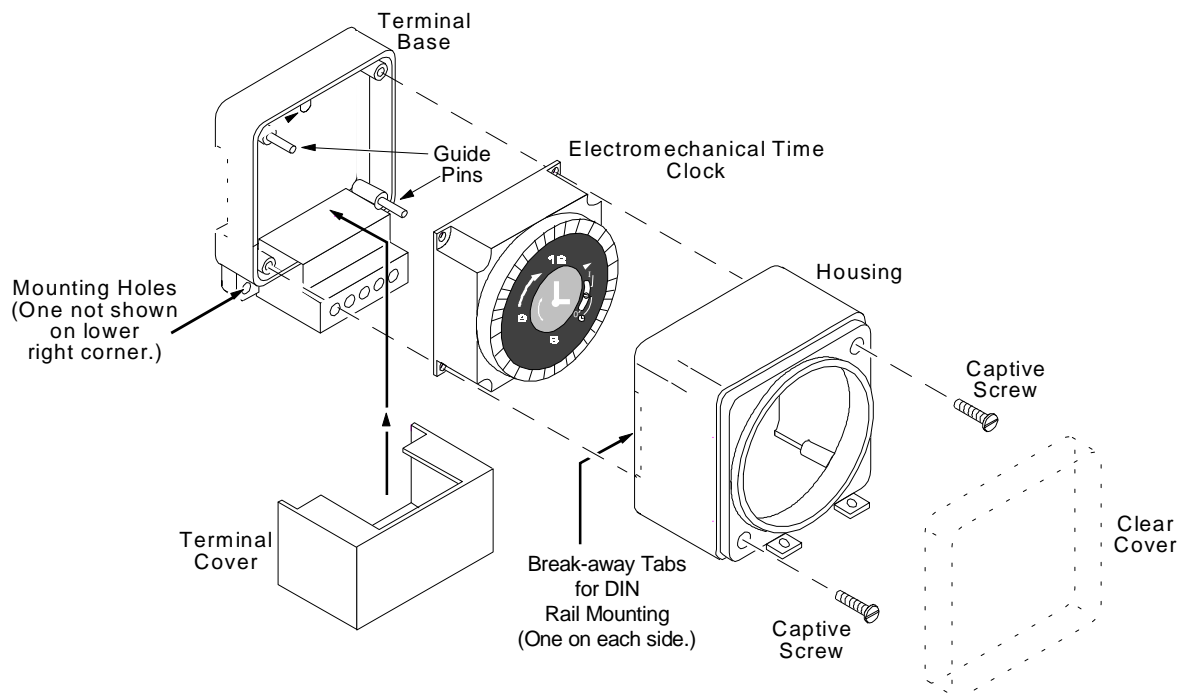
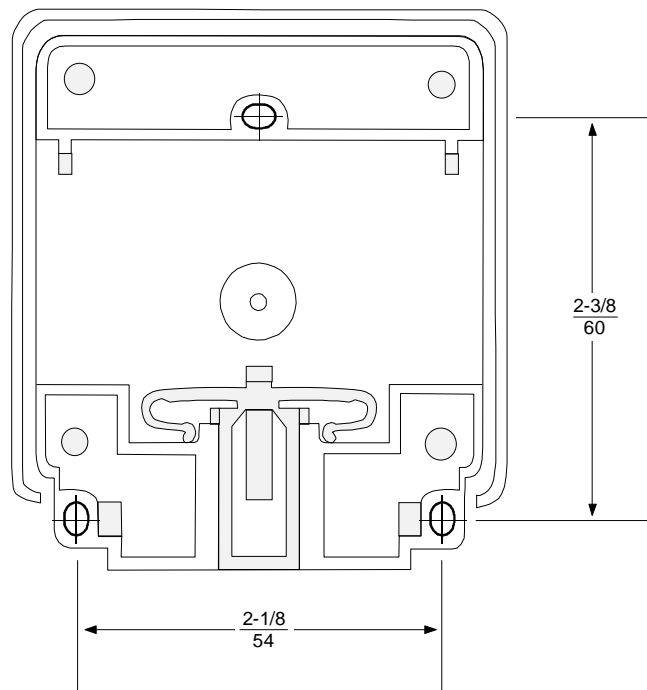

Figure 2: C-7355 Electromechanical Series 7-Day Time Clock
Figure 10: Surface Mounting Template (in./mm)
2. Using a screwdriver, loosen the two captive screws located in the upper right and lower left corners of the housing. See Figure 2.
5. Use the mounting template (Figure 10) or place the terminal base against the desired mounting surface and mark the location of the two mounting holes along the bottom of the terminal base. (See Figure 2.)
The mounting template shown in Figure 10 can be used when surface mounting a C-7355 time clock.